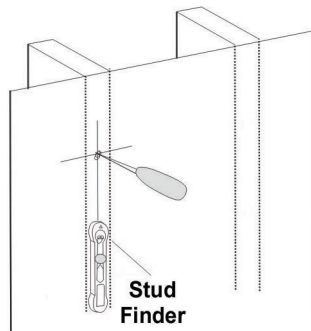

Figure 1
1. Use a high quality Stud Finder (commercially available) to locate dead center of a wood stud and mark the location with a pencil, see **Figure 1**.